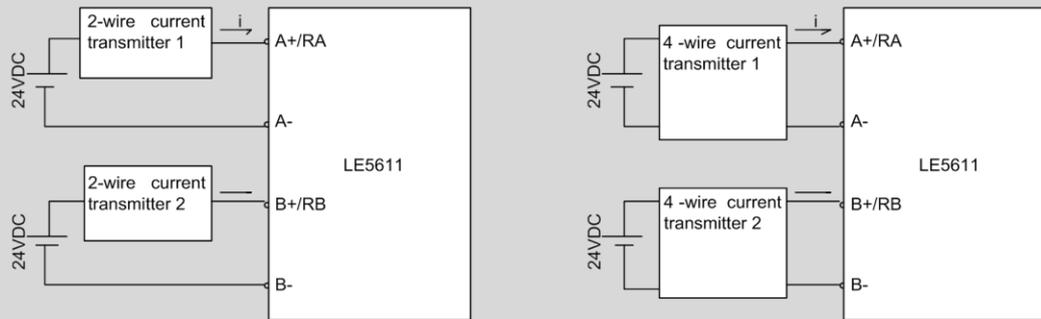

Figure 4-9 *Wiring Diagram with 2-Wire Type Current Transmitter* *Wiring Diagram with 4-Wire Type Current Transmitter*
- 2-wire wiring and 4-wire wiring are as shown in Figure 4-9. The transmitter shall be supplied power through external power and also can choose 24VDC output of CPU module according to requirement of power capacity.